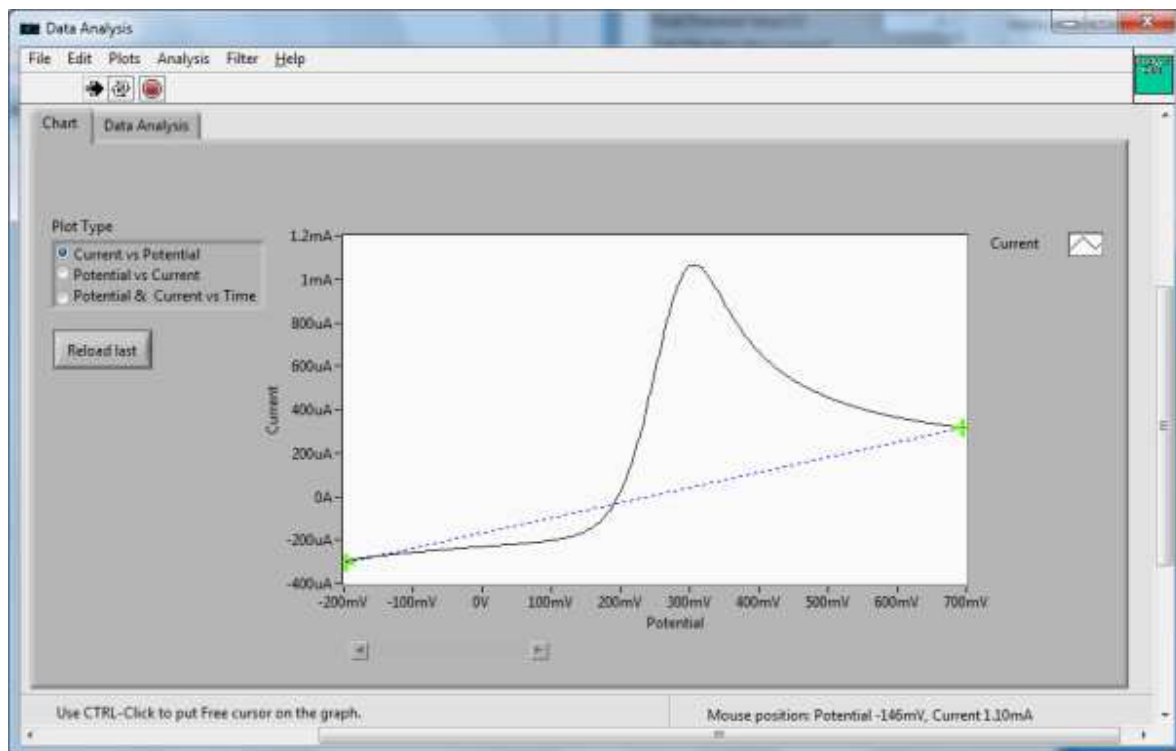

**Figure 47.** [Analyze Data] window with the cursors moved to data endpoints
4. [Analyze Data] will open displaying the data the user has selected from the full data set. By going to **Plots**→*Plot Cursors*→*Cursor Along Plot*, and clicking the mouse while holding CTRL, two cursors can be placed on the data. These cursors are used to draw a baseline on the data and can be moved to any desired location on the data. Figure 47 shows [Analyze Data] with the cursors moved to the endpoints of the data.